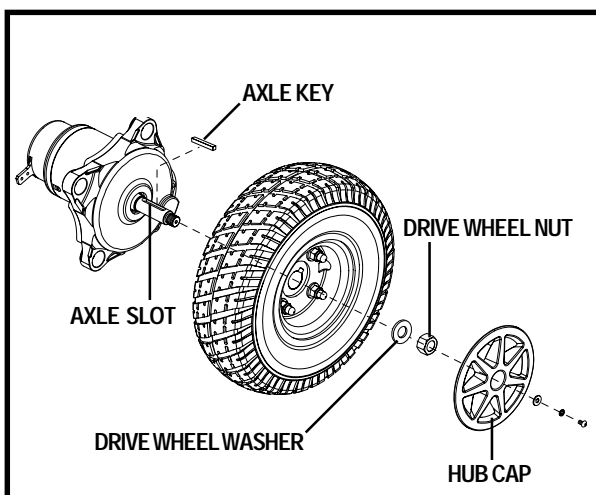

Figure 21. Jazzy Select Drive Wheel
4. Remove the hub cap. See figure 21.
5. Remove the drive wheel nut and washer from the axle. See figure 21.
11. Reinstall the drive wheel nut and washer onto the axle and tighten. See figure 21.